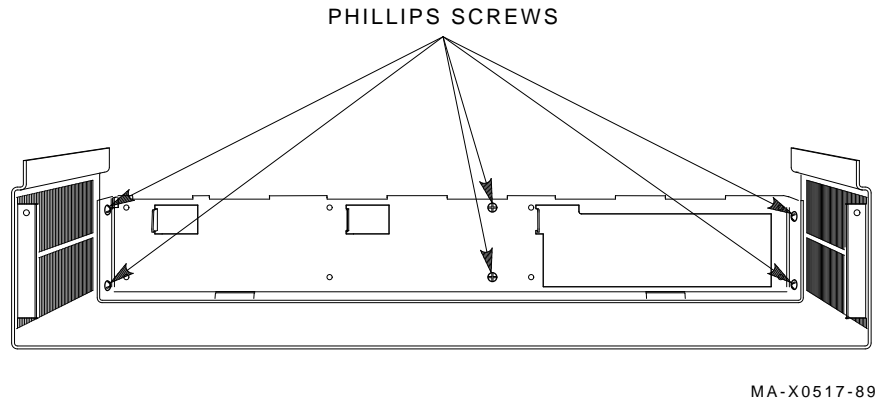

Figure 1-9 Removing Front Bezel screws
1. On the cover of the system box, remove the six screws (Figure 1-9) and remove the front bezel from the cover.
4. Install the front bezel onto the cover and install the six screws (Figure 1-9).